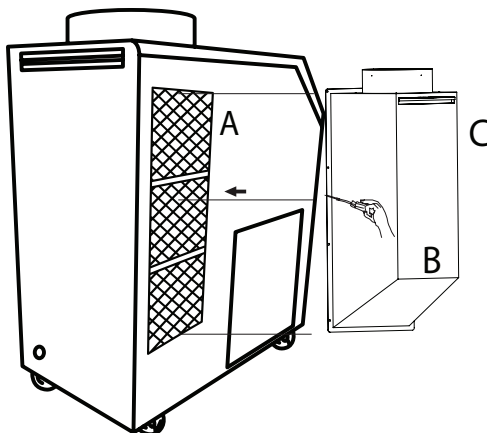

Figure 5
3. Install "B" which contains "C" by using driver with enclosed bolts(6EA) as Figure 5.